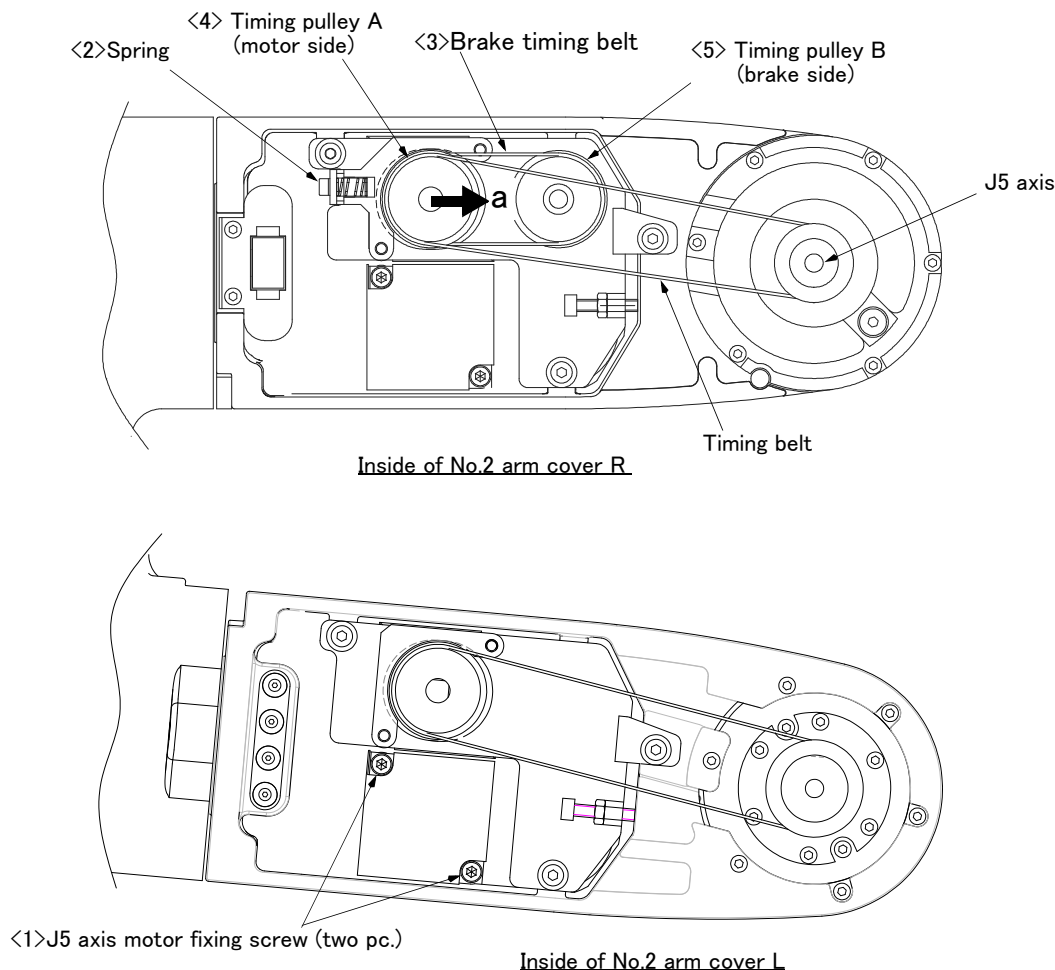

Fig.5-15 : Inspection and replacement of J5 axis brake timing belt (RV-2FR series)
The reference figure at inspection and replacement of the brake timing belt is shown in Fig. 5-15.
- 4) Move motor side timing belt pulley (4) in the direction of the arrow "a" of Fig. 5-15 , and remove the brake timing belt..
(8) RV-2FR series: Inspection and replacement of J6-axis timing belt and brake timing belt